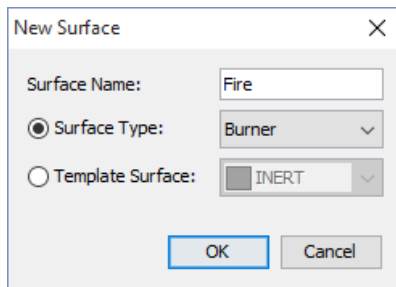

Figure 3. Inserting a new burner surface
3. In the **Surface Name** box, type **Fire**, Figure 3.